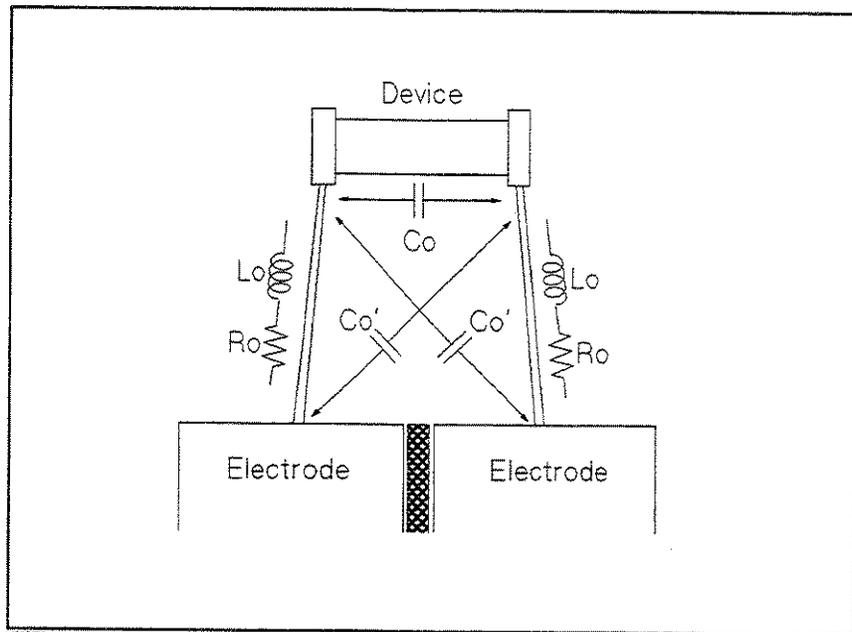

Figure 6-17. Parasitic Impedance Model (Using the HP 16047A/C/D)
- a. Leave the HP 16047A in an OPEN condition as shown in Figure 6-17.